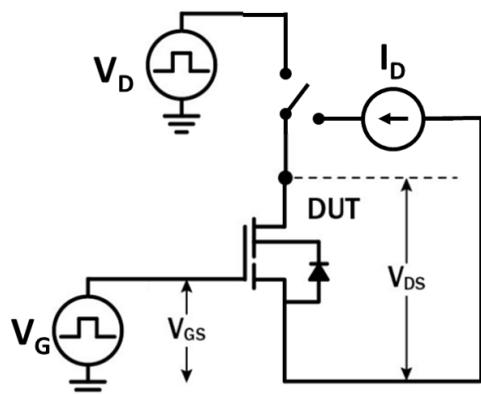

Figure 18. Dynamic $R_{DS(on)eff}$ Test Circuit
- g. Dynamic $R_{DS(\text{on})}$, 100% tested; see Figures 18 and 19 for conditions